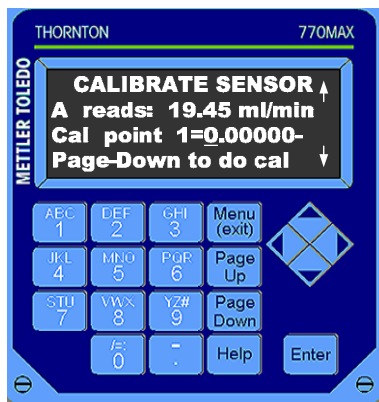

Figure 4
7. Press ▲ or ▼ to select Flow. Press Page Down. The 770MAX should now be displaying the 5000TOCe Sensor flow rate as shown in Figure 4.